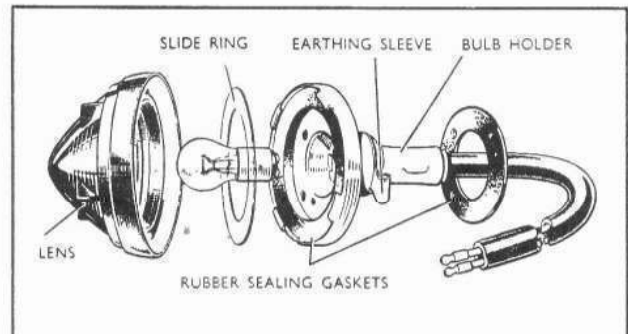

**Fig. 45.** How to set headlamp beams against a wall or screen
**Fig. 43.** The optical tubes of two Lucas Beam Setters possible. When such facilities are not available, the lamps can be set by marking off a smooth wall or screen and shining the lamps on it from a distance of twenty-five feet. Details are shown in Fig. 45 where, it will be noted, the main beams are shown aimed just below the horizontal at a distance of twenty-five feet.